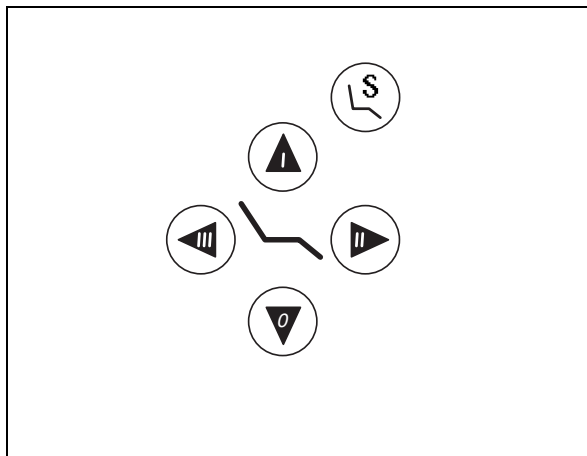
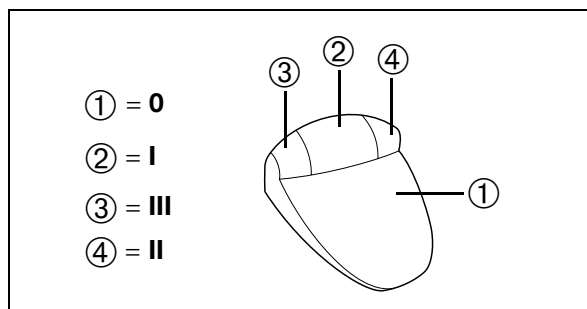

Fig. 10
Fig. 11
There are also 5 keys for operating the chair on the touch-screen next to the key fields for operating devices (Fig. 10).
For this purpose, the foot control buttons (Fig. 11) are aligned the same as the keys on the touch-screen (Fig. 10) i.e. the left button ③ (Fig. 11) corresponds to key III, the middle button ② (Fig. 11) corresponds to key I, the right button ④ (Fig. 11) corresponds to key II, and the pedal ① (Fig. 11) corresponds to key 0.